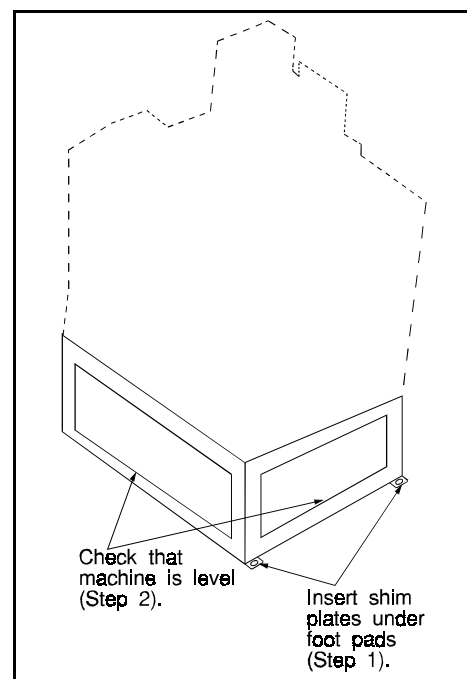

FIGURE 4 (MSIN0108AE)
1. After the anchor bolts are installed, level the machine **both left to right and front to back**, by inserting furnished shims under each footpad (see FIGURE 4) as needed.
2. **Use a carpenter's level to verify that the machine is level** (see FIGURE 4).